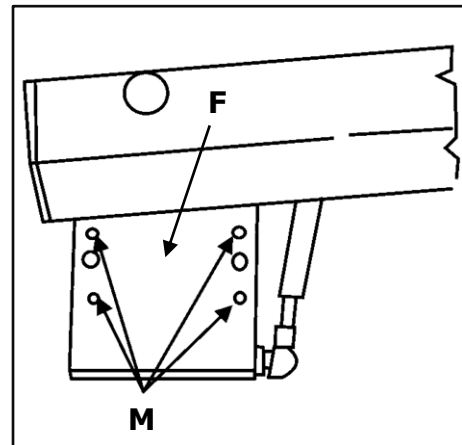

Figure 8: Adjusting screws (mounting plate)
- To adjust, loosen the two fixing screws of the mounting plate (F) that attaches the bridge guard to the machine body, and adjust the bridge guard with the four adjusting screws (M) so that it is parallel to the cutter block (see ⇒ Figure 8).